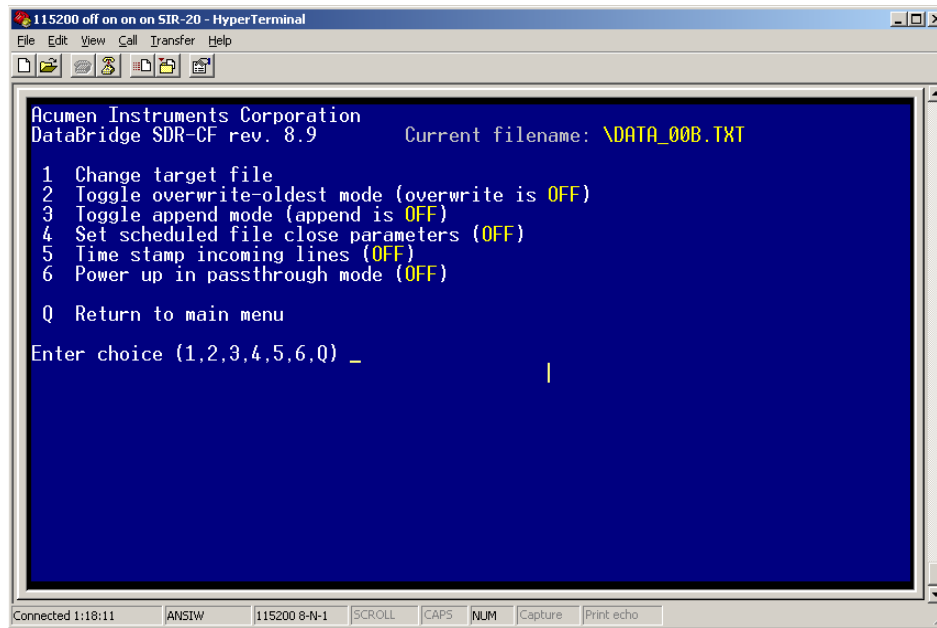

Figure 2: Recording Parameters menu.
- 4 Press **6** to view the Recording Parameters menu (Figure 2):
- 4** Press 6 to view the Recording Parameters menu (Figure 2):